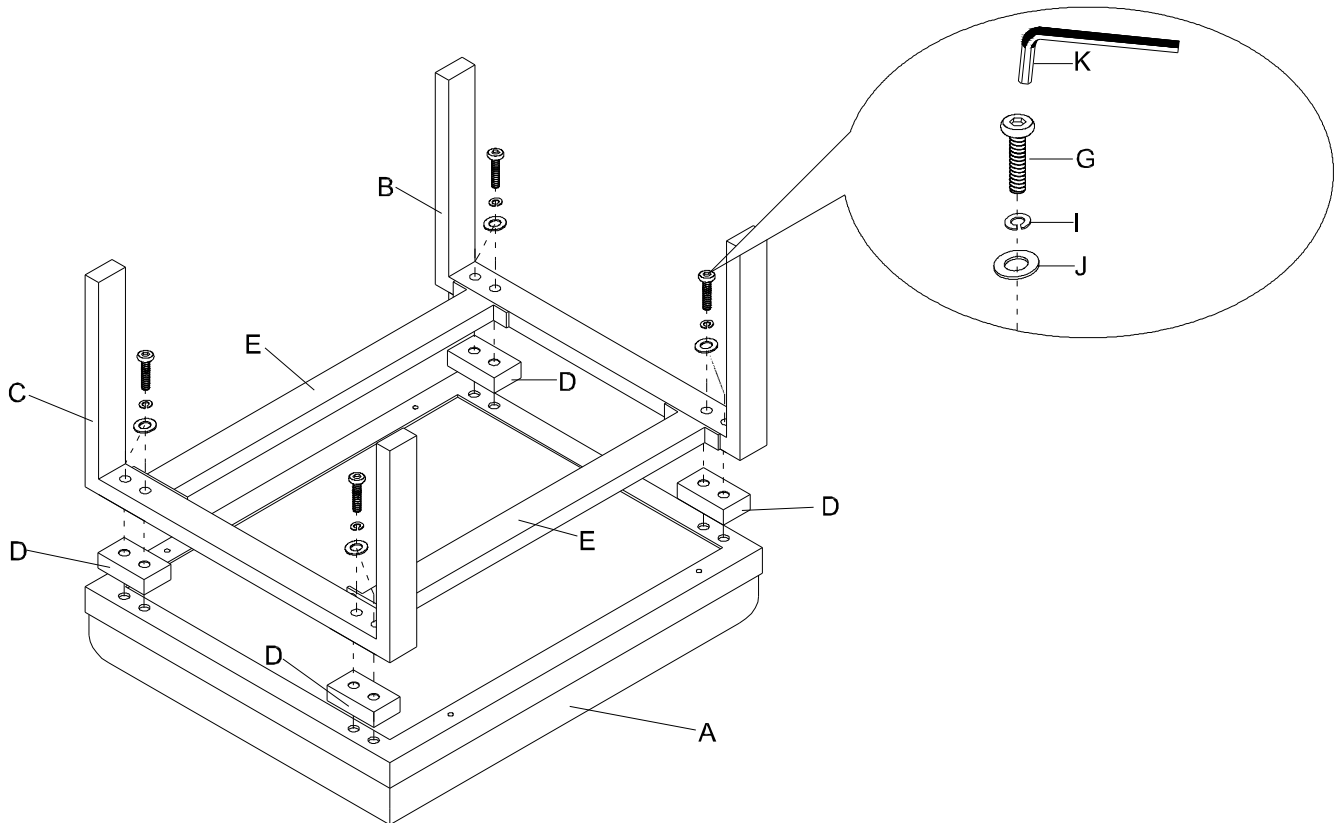

FIGURE-2
STEP-2: CONNECT SEAT CUSHION-A TO SIDE FRAMES-(B&C) AND METAL RAILS-E AS SHOWN IN FIGURE-2
- 2.1 POSITION SEAT CUSHION-A ON THE WORK SURFACE AS SHOWN IN FIGURE-2.